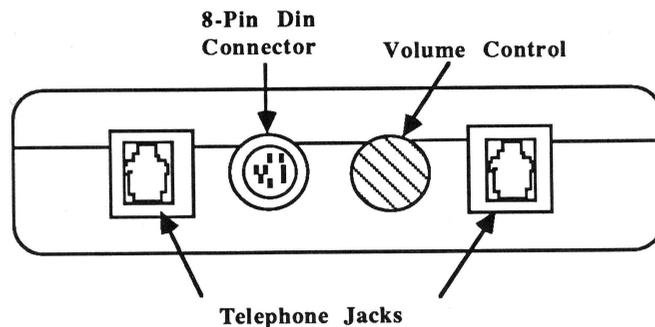

FIGURE 2
1. Turn the volume control clockwise (see Figure 2) and try plugging in the modem again.